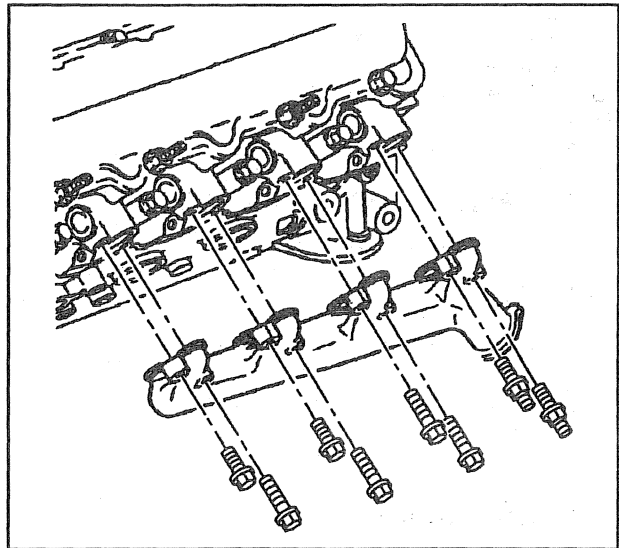

Figure 9—Exhaust Manifold Left Side
**Remove or Disconnect (Figure 9)**
**Install or Connect (Figure 9)**